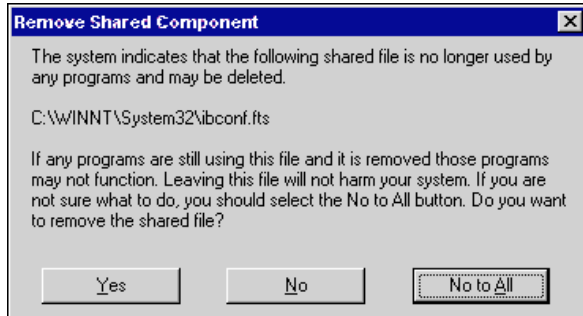

Figure A-3. Removed Shared Component Dialog Box
2. Select the GPIB software you want to remove and click on the **Add/Remove...** button. The uninstall program removes all folders, programs, DLLs, and registry entries associated with the GPIB software. During uninstallation, you are prompted about deleting shared components, as shown in Figure A-3. Click on **Yes**, **No**, or **No to All** to continue with the uninstallation.